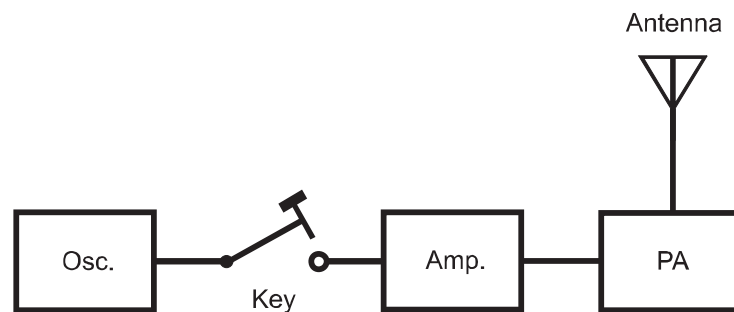

Fig. 9-1. Block diagram of a CW Morse code transmitter.
The simplest form of modulation is *on/off keying*. It is usually done in the oscillator of a *continuous-wave* (CW) radio transmitter. Figure 9-1 is a block diagram of a CW transmitter. This is the type of system most often used to transmit signals in Morse code. The use of “the code” or “Morse” in communications is still popular among some amateur radio operators.